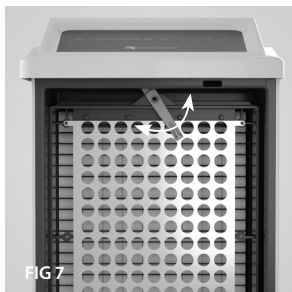

FIG 7
- Turn the Safety Lock on High Energy Grid from vertical to horizontal; gently pull out the High Energy Grid and put aside on a secure clean and dry surface. (FIG 7)